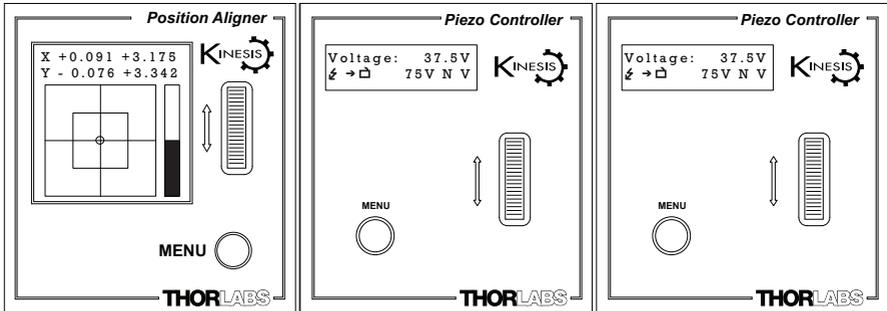

Fig. 4.14 TARGET and VOLTS Displays Showing Values At Mid Position
- 5) The piezos drivers will position the piezo mirror such that the laser beam is held central within the detector array, i.e. for a 75V piezo, the piezo driver displays 37.5V and the TARGET display shows the spot in the center - see Fig. 4.14.